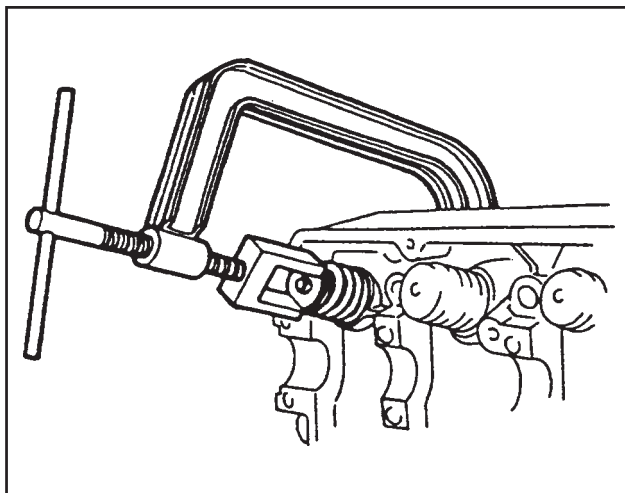

FIGURE 5. REMOVE THE VALVES
17. Use a valve spring compressor and remove the valve retainers, springs and valves from the head. See FIGURE 5.